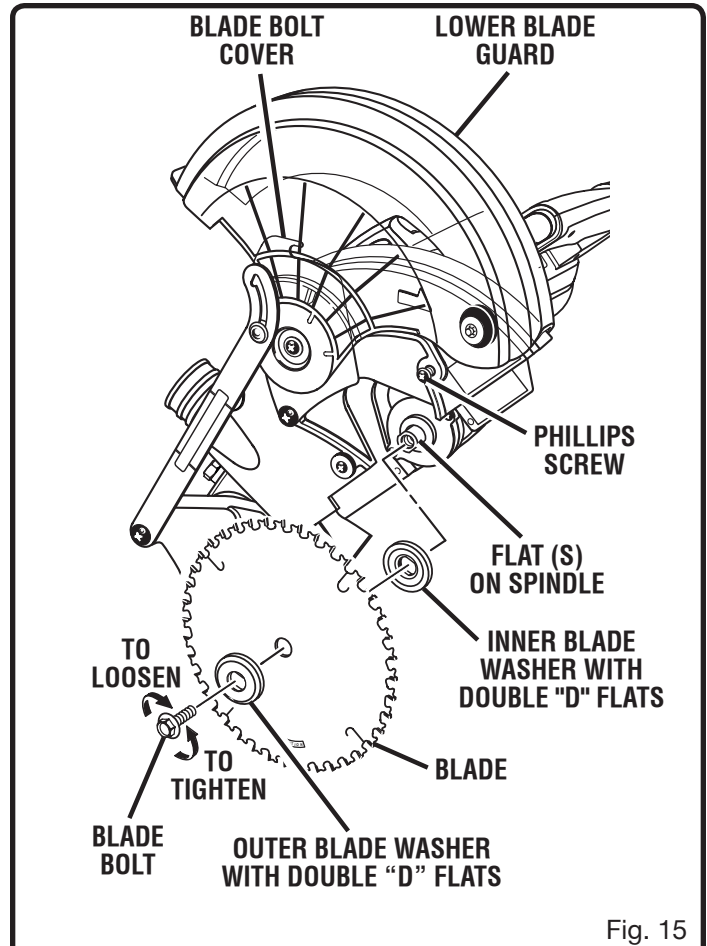

Fig. 15
- Fit saw blade inside lower blade guard and onto spindle. The blade teeth point downward at the front of saw as shown in figure 15.
- Retighten phillips screw securing blade bolt cover. Tighten screw securely. *See Figure 15.*